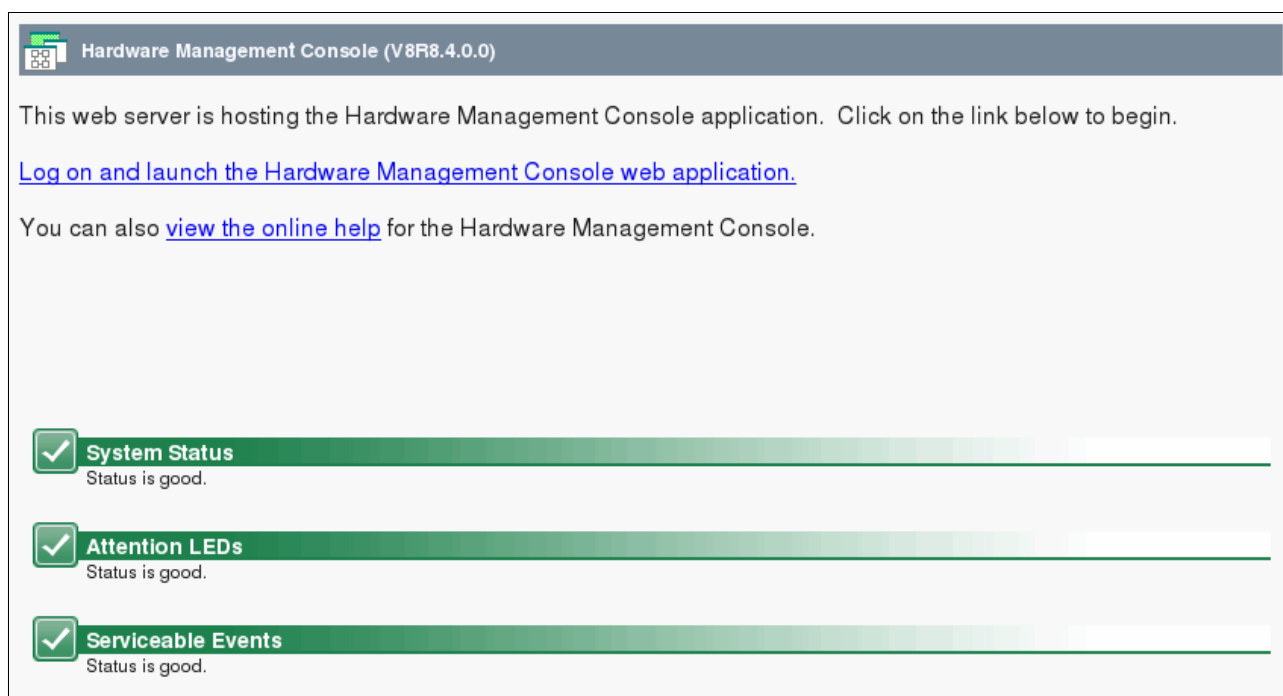

Figure 3-70 HMC Welcome panel
14. After the deployment finishes, you can log in from the HMC console (Figure 3-70).